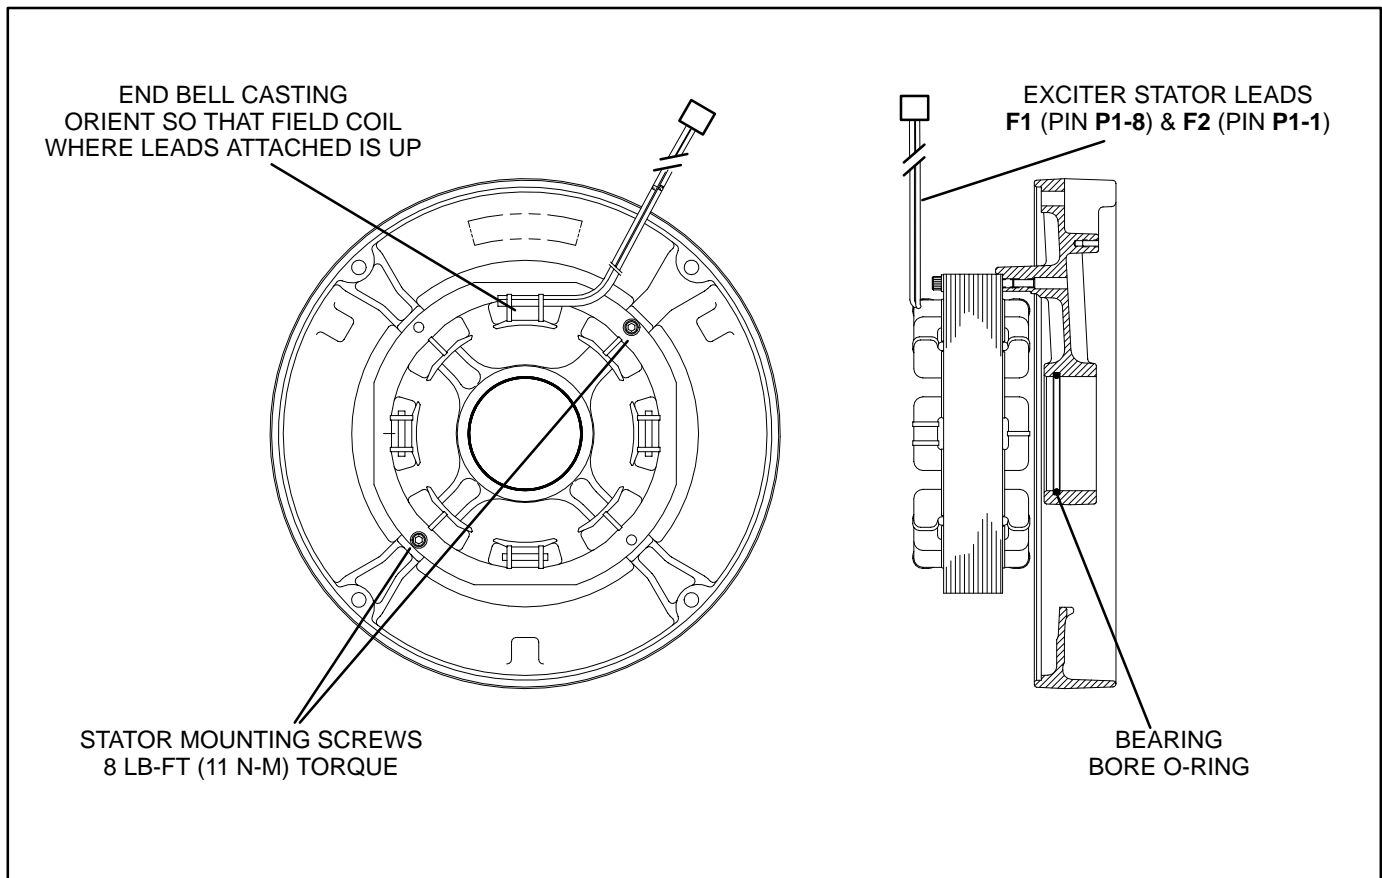

FIGURE 18. EXCITER STATOR AND END BELL
6. Torque the two exciter stator screws (Figure 18) to 11 N-m (8 lb-ft). The pole to which the leads are tied must be up.
7. Wipe the bearing bore in the end bell lightly with molybdenum disulfide grease and make sure the rubber O-ring (Figure 18) is in place.